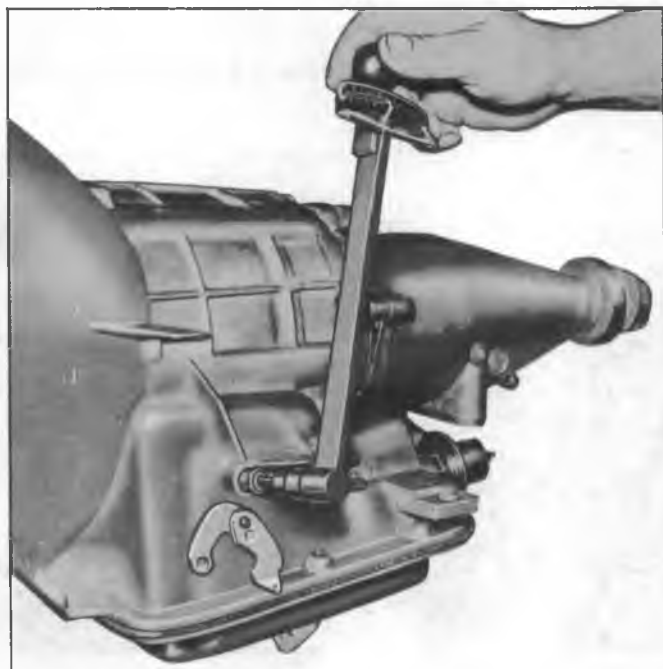

Fig. 35PG--Low Band Adjustment
Tighten the low servo adjusting screw to 70 inch lbs. using torque wrench, J-5853 and a 7/32" hex head driver (fig. 35PG) or J- 21848. The input and output shaft must be rotated simultaneously to properly center the low band on the clutch drum. Then back off four (4) complete turns for a band which has been in use for 6,000 miles or more, or 3 turns for one in use less than 6,000 miles. Tighten the locknut to specified torque.